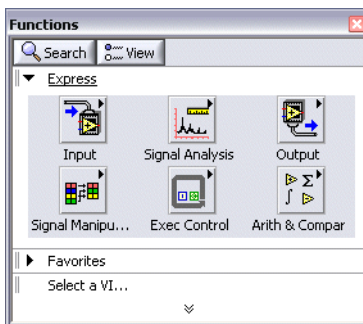

Figure 1-6. Functions Palette
3. If the **Functions** palette, shown in Figure 1-6, is not visible, select **View»Functions Palette** to display it. The **Functions** palette opens with the **Express** subpalette visible by default. If you have selected another subpalette, you can return to the **Express** subpalette by clicking **Express** on the **Functions** palette.